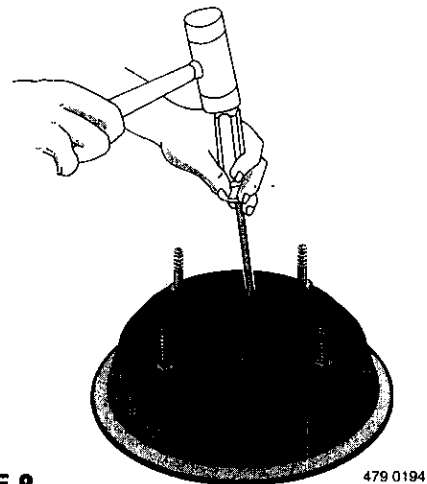

FIGURE 9
4. Place back half of pump on flat surface and tap out ceramic seat. See Figure 9.